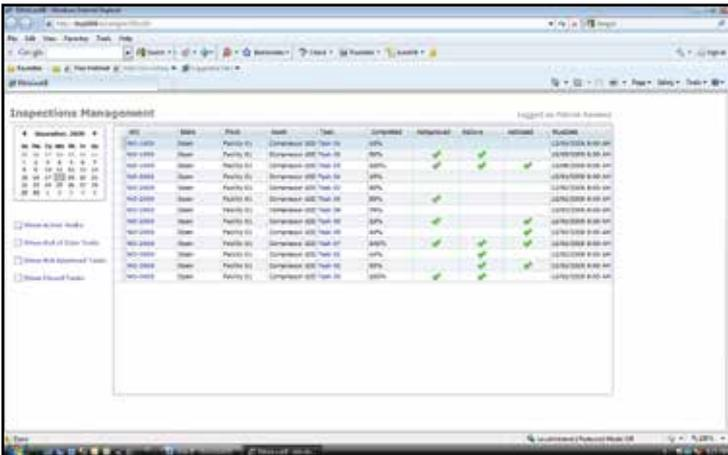

Figure 6: Screenshot—Inspection Tours.
- **Inspection Tours**—This function (Figure 6) allows the user to use printed reports or mobile devices to specify safety or maintenance inspection requirements to field personnel. With mobile devices,